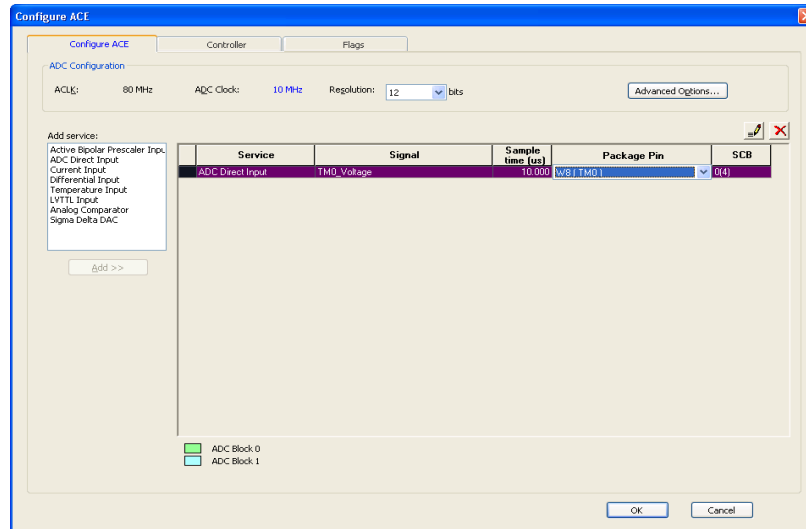

Figure 10 - MSS ACE Configuration With ADC Direct Input
- Assign the ADC Direct Input Signal to the package pin W8 in the Configure ADC dialog box. The **Configure ACE** tab is displayed as shown in Figure 10 .